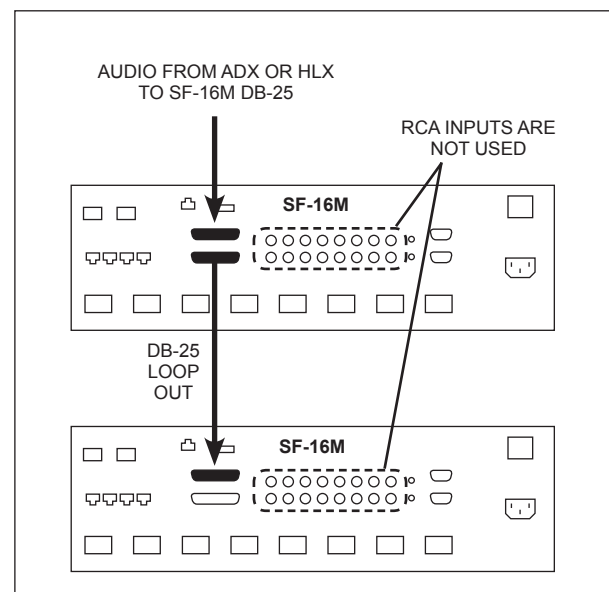

Figure 3
- 2. Direct input from an Audio Authority audio matrix:** For installations where the SF-16M is serving as an amplifier for Audio Authority audio matrix switchers such as the ADX-0808/ADX-1616 and the HLX 2278 audio output card (See Illustration below). In this scenario, the SF-16M receives all audio content from the ADX or HLX and passes the audio through to the amplified outputs. The HLX or ADX provides all of the matrix switching (See figure 3 below).